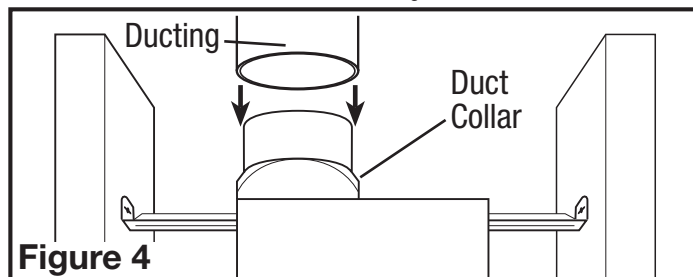

Figure 4
- Connect the ducting to the fan's duct collar (**Figure 4**). Secure in place using tape or screw clamp. Always duct the fan to the outside through a wall or roof cap. It is recommended that low restriction termination fittings be used.